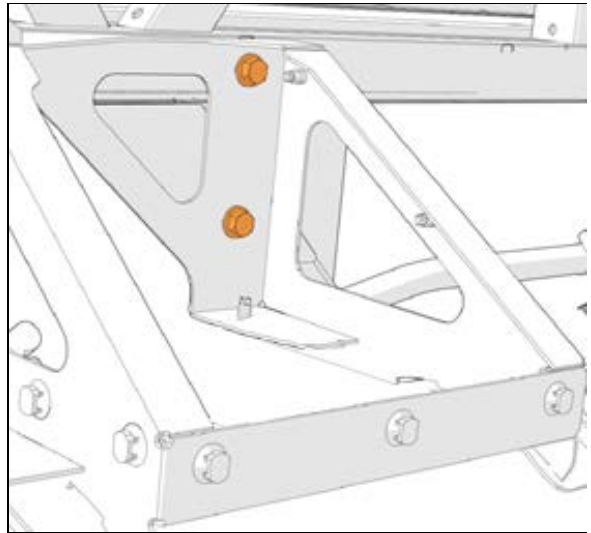

Figure 12
11. Remove the longitudinal screws (2) inside the tank support (Figure 12).